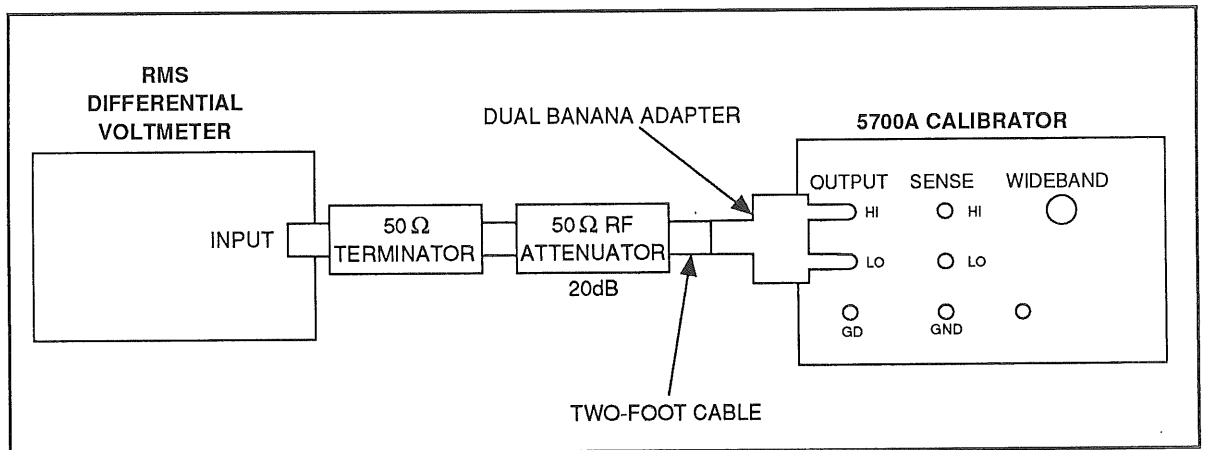

Figure 3-10. Frequency Response Characterization
1. Connect the equipment as shown in Figure 3-10.
9. Reconnect the equipment of Figure 3-10 except use two 20 dB RF Attenuators in series to output approximately 20 mV. Repeat the process in steps 2 through 8 for 20 mV testing, substituting 20 mV wherever 200 mV appears in the text. However, the requirement for repeatability for this level is $\pm 0.01\%$ whenever returning to the 1 kHz reference.
1. Set up the equipment connections shown in Figure 3-10. Use three 20 dB rf attenuators in series.